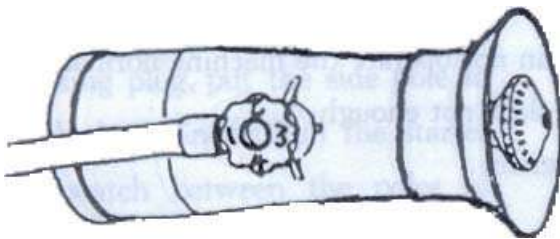

Fig 11
(1)Misting.Loosen the pressing lid,regulate the length of the nozzle opening to meet the different requirments of misting.Turn the regulating valve to change the amount of misting.See Fig.11.